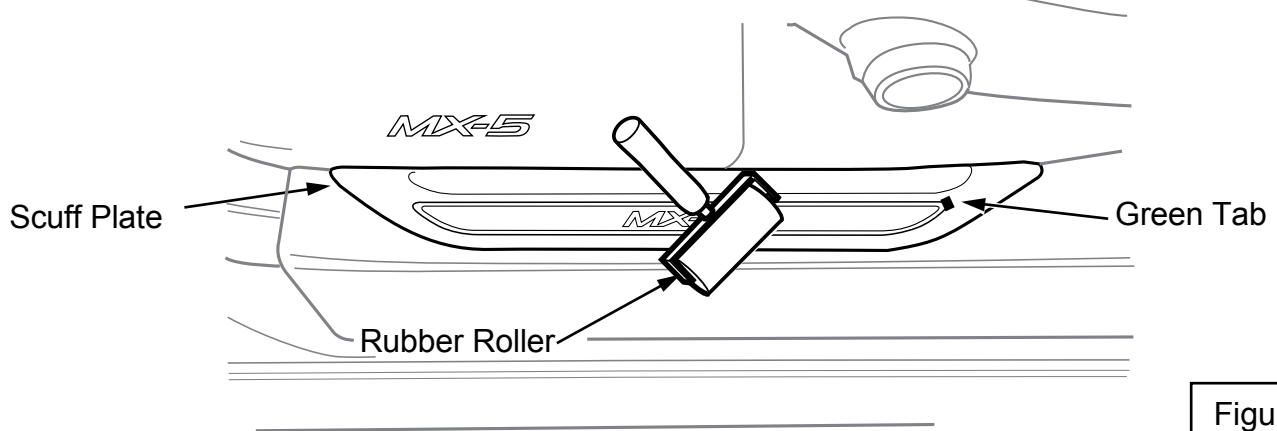

Figure 8
- A. Use a Rubber Roller, from center out, press down the perimeter of part to ensure proper wet-out of adhesive. (Figure 8) (Use caution to ensure roller does not scratch vehicle.)